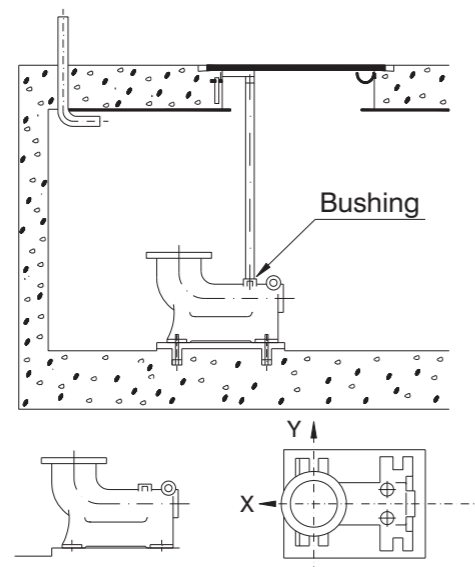

Fig 4
3.3 Discharge Elbow Installation (Fig. 4)
Support the guide pipe with bushings on discharge elbow and the guide pipe holder. If the guide pipe requires a length exceeding 5.5 m, an extension or intermediate support may become necessary, in which case we are available for consultation. When installing the discharge elbow, the guide pipe must be vertical (with a tolerance of 1 mm or less per 1 m), using a plum bob. If it is not vertical, it may become impossible to lift pump. Discharge elbow level should be within 0.1 mm per 1 m, both in the "X" and "Y" directions shown in Fig. 4. It is recommended practice that pipe installation be carried out with the discharge elbow covered to protect against entry of concrete and mortar during the work.